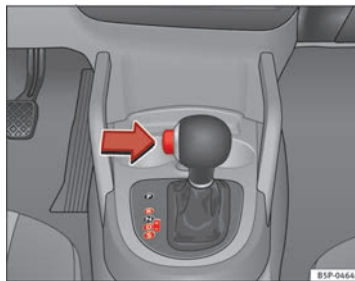

Fig. 145 Driving
- Press on the button on the selector lever knob (on the left, ⇒ fig. 145).